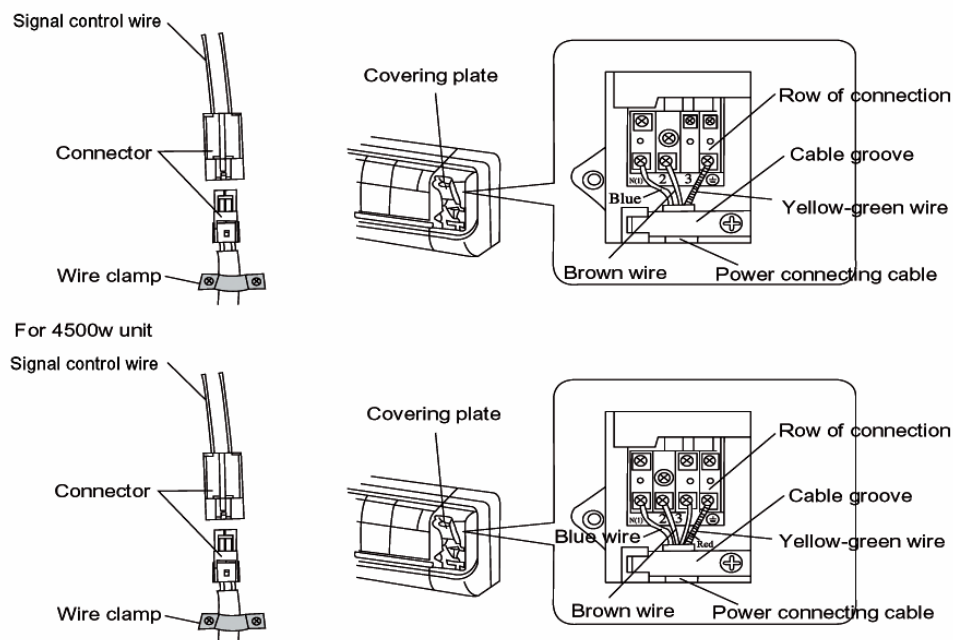

Fig.11-2
- As shown in Fig.11-2, connect the blue wire of power connect wire onto terminal "N", red wire onto terminal"2", brown onto terminal "3" and yellow-green one (earth wire) to terminal "⊕"